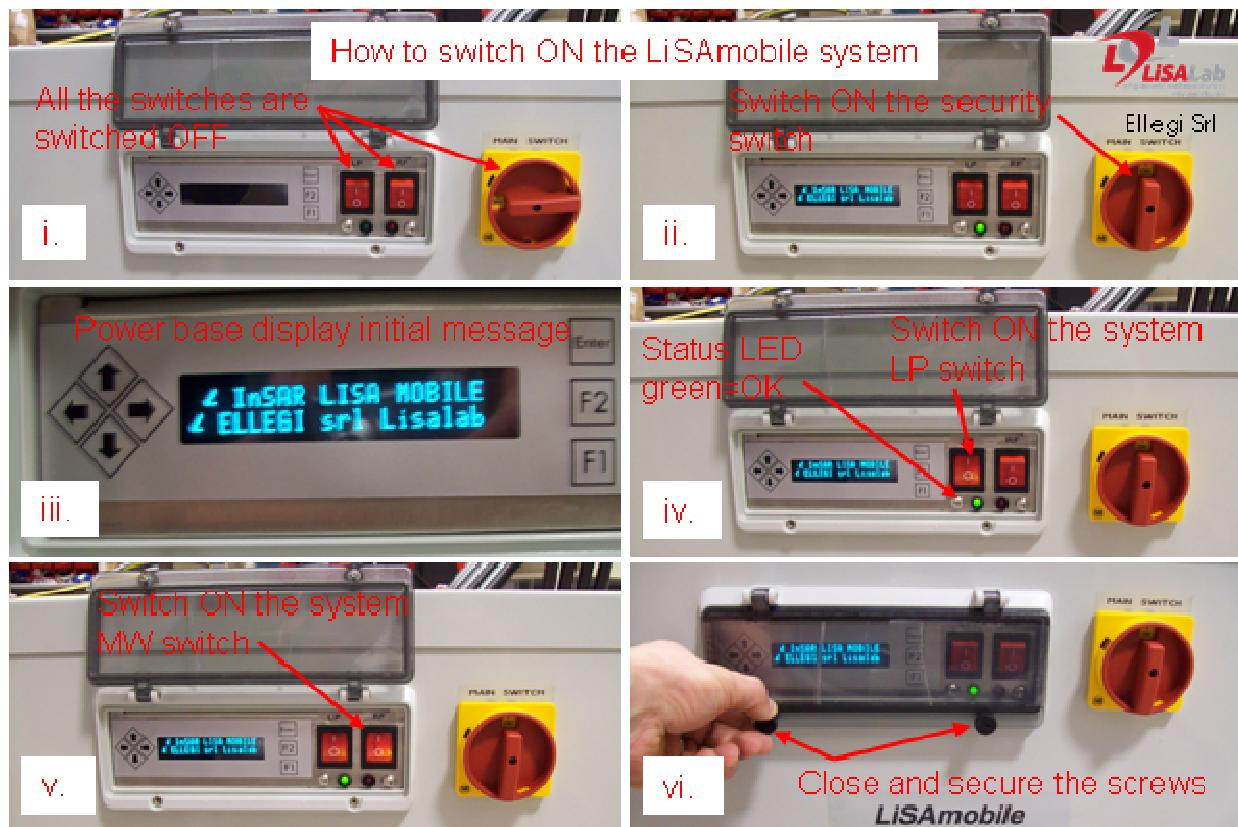

Figure 14: Steps 10 and 11 of the installation procedure.
10. Switch to the "On" position the security switch of the power base; the system will switch on and the message "*InSAR LISA MOBILE ELLEGI srl lisalab*" appears on the power base display (Figure 14).
11. Lift the protective screen of the power base display and switch on the two red switches on the "I" position; firstly the "LP" switch and then the "MW" switch (Figure 14). Then close the display protective screen and secure it with the two fixing screws.